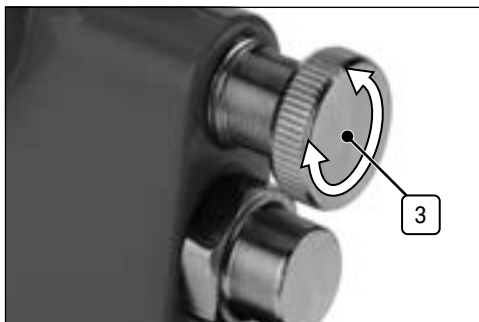

Fig. 10
The fluid control dial (3) adjusts the amount of paint that is released into the air flow and the density of the spray when the trigger is fully depressed (Fig. 10):